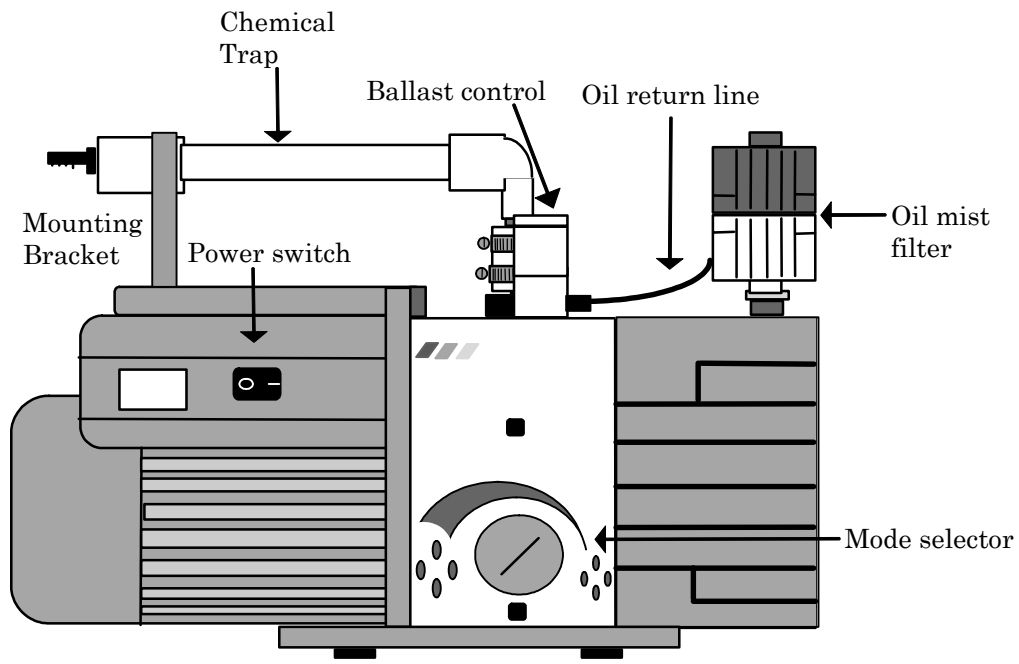

Figure 1 RV-5 Oil-Sealed Vacuum Pump (Front Side)
1. Install the Ozone Destruction Chemical Trap mounting bracket to the top of the pump with the screws and provided wrench (Figure 1). The Ozone Destruction Chemical Trap is a white plastic cylinder approximately 1 foot (30 cm) in length by 1.5 inches in (3.8 cm) diameter fitted with a barbed fitting on both ends.
5. Slide the 2 inches Tygon[®] vacuum hose over the pump inlet barbed adapter and secure with a hose clamp (Figure 1).
15. Place the oil mist filter onto the o-ring on the pump exhaust port. Install the filter so that the gray half is above the white half of the filter (Figure 1).